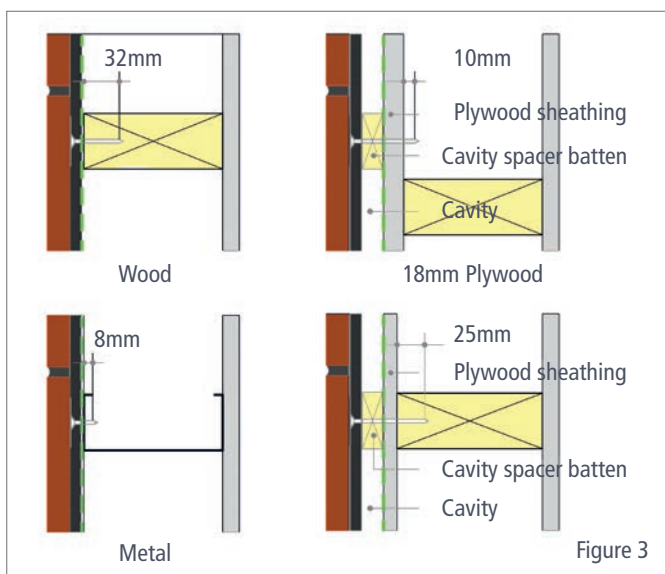

Figure 3
**IMPORTANT:** To achieve proper attachment the panel fasteners must penetrate the various substrates as shown in Figure 3. The substrate must be flat and stable and strong enough to provide firm anchorage for fixings. Where fixing to thinner sheathings, it is recommended that fixings penetrate the sheathing and the supporting member. See Figure 3 (page 5).